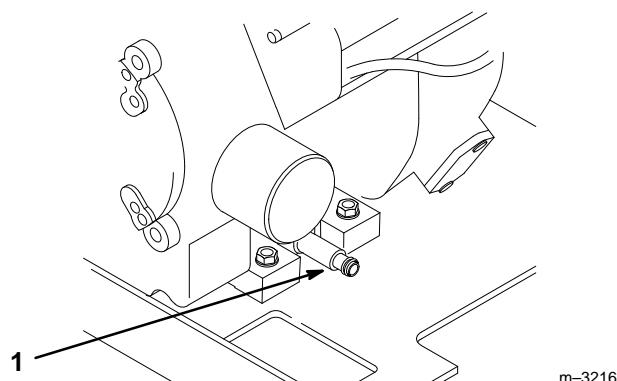

Figure 18
- Open the drain valve by turning it counterclockwise, pulling out as you turn it (Fig. 18).